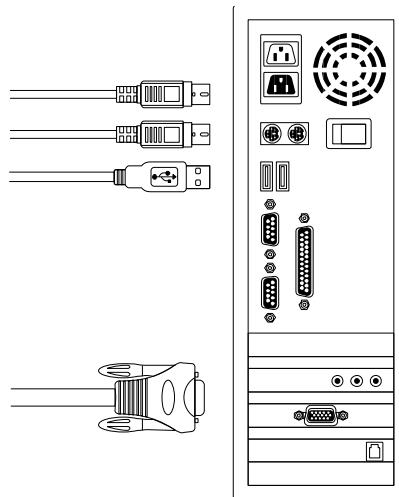

Figure 7: USB & PS/2 (Keyboard & Mouse) and VGA connected
- A. Connect the **USB**, **PS/2 (keyboard/mouse)**, and **VGA** connectors to your computer. We recommend that you connect all additional systems in this way. (*Figure 7*)
- B. Use the custom combo cable set (**See Figure 6**) to connect one or more Slave KVM switches to any PC port of the Master KVM switch. **Individual KVMs must be connected through a PS/2 & USB connection.** (**Please refer to Figure 7**)